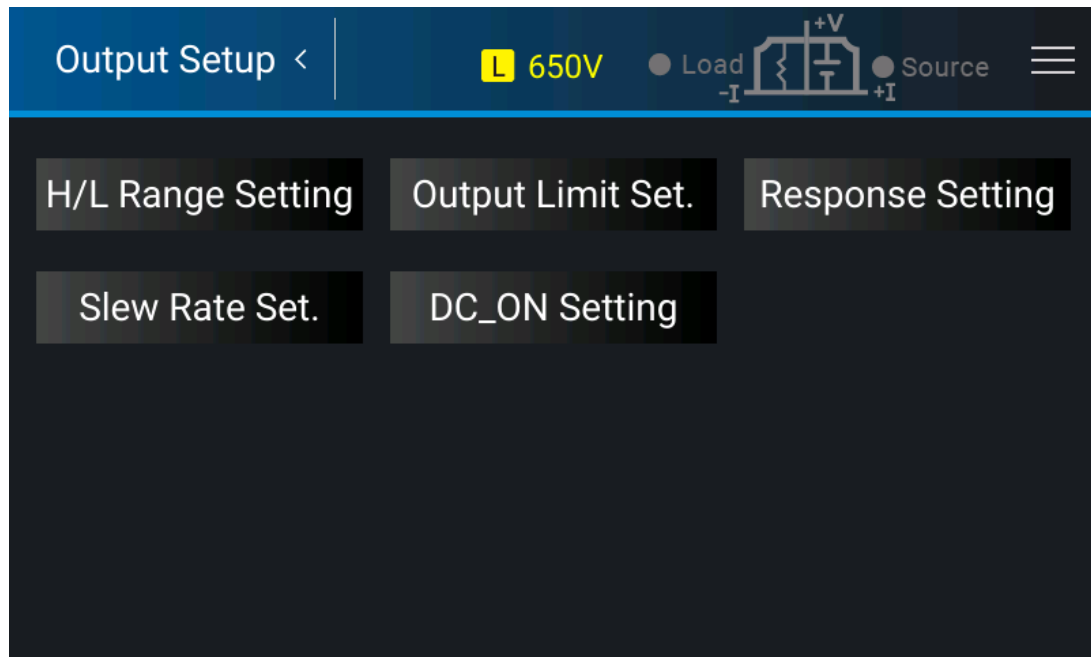

Figure 3-7
Tap "Output Setup" in the Menu screen to enter the setup page as Figure 3-7 shows.
The values (for reference only) in Figure 3-7 are not the default settings of the DC power supply.
1. The setting page is shown in Figure 3-7. Use the touch panel to enter the value. The low limit of DC_ON RISE/FALL is 0V and the high limit is 600V.